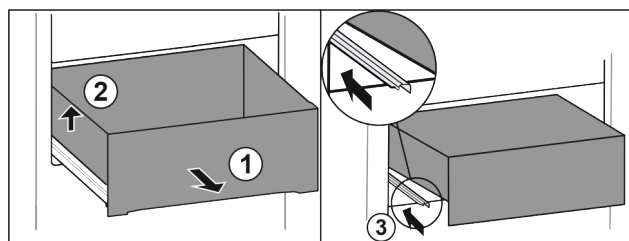

Fig. 105
- ▶ Pull out drawer as far as it will go. Fig. 105 (1)
- ▶ Lift drawer on the left. Fig. 105 (2)
- ▶ Insert left rail. Fig. 105 (3)